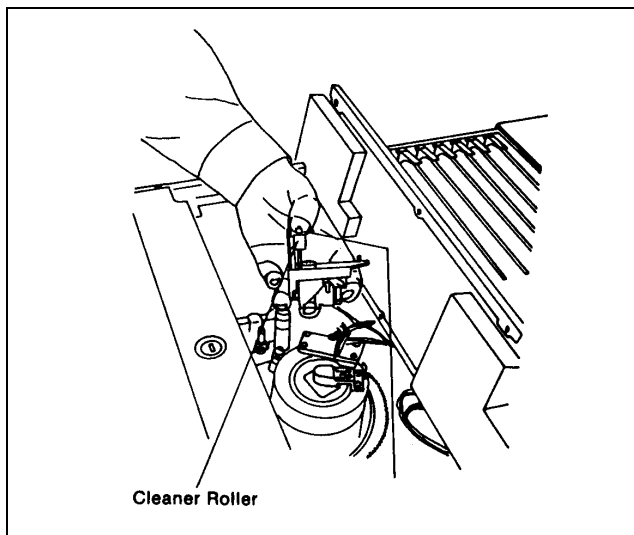

Figure 7-25-2 Cleaner Roller Removal
3. Push cleaner roller by hand and remove roller stopper as shown in figure 7-25-2.